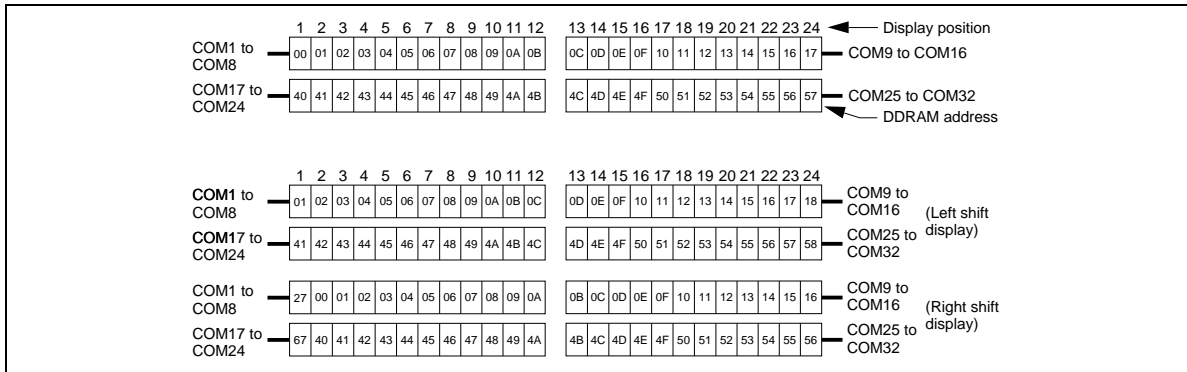
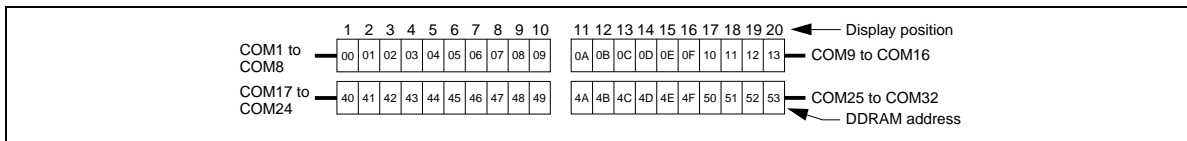

Figure 5 2-Line by 24-Character Display (5-Dot Font Width)
Figure 6 2-Line by 20-Character Display (6-Dot Font Width)
- Case 1: The first line is displayed from COM1 to COM16, and the second line is displayed from COM17 to COM32. Note that the last address of the first line and the first address of the second line are not consecutive. Figure 5 shows an example where a 5-dot font-width 24 × 2-line display is performed using one HD66712. Here, COM9 to COM16 begins at (0C)H, and COM25 to COM32 at (4C)H. When a display shift is performed, the DDRAM addresses shift as shown. Figure 6 shows an example where a 6-dot font-width 20 × 2-line display is performed using one HD66712. COM9 to COM16 begins at (0A)H, and COM25 to COM32 at (4A)H.